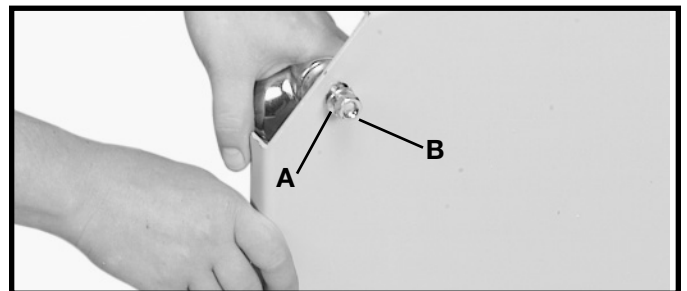

Fig. 4
3. Place a 3/8 lockwasher (A) Fig. 4 onto each bolt.
4. Thread 3/8 hex nut (B) Fig. 4 onto each of the four bolts and tighten securely.